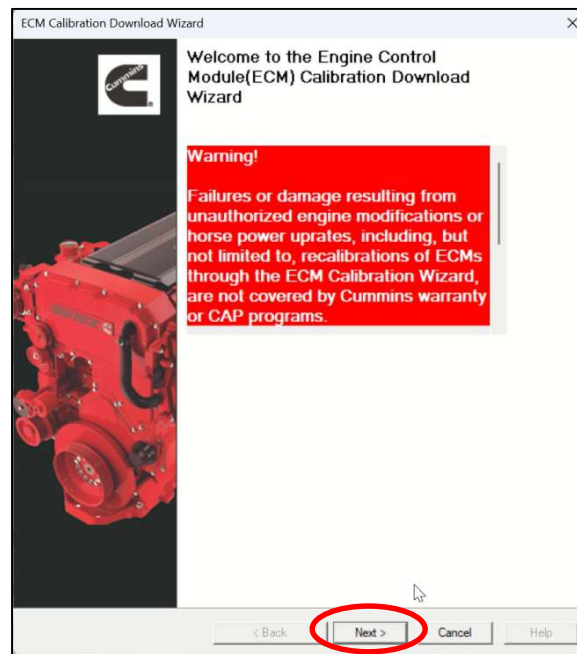

Figure 27
36. Select Next on the ECM Download Calibration Wizard. See figure 27.